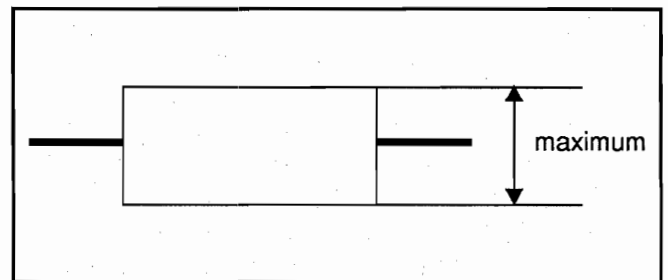

Fig. 1-5
- 4) Readjust VR525 to obtain the maximum waveform. (Fig. 1-5)